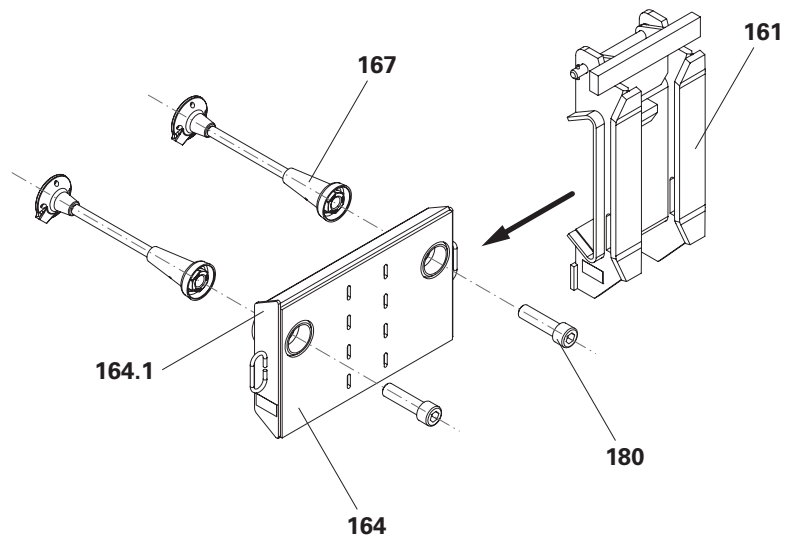

Fig. A3.12
1. Screw tie tubes (163) and (164) with Cyl. Screw ISO 4762 M30 x 110-10.9 (180) to climbing tie (167).
2. Slide Climbing Shoe II ACS (161) onto tie tube (163) or (164), align and fix with clamping screw (161.1).
- (Fig. A3.12 + A3.13)